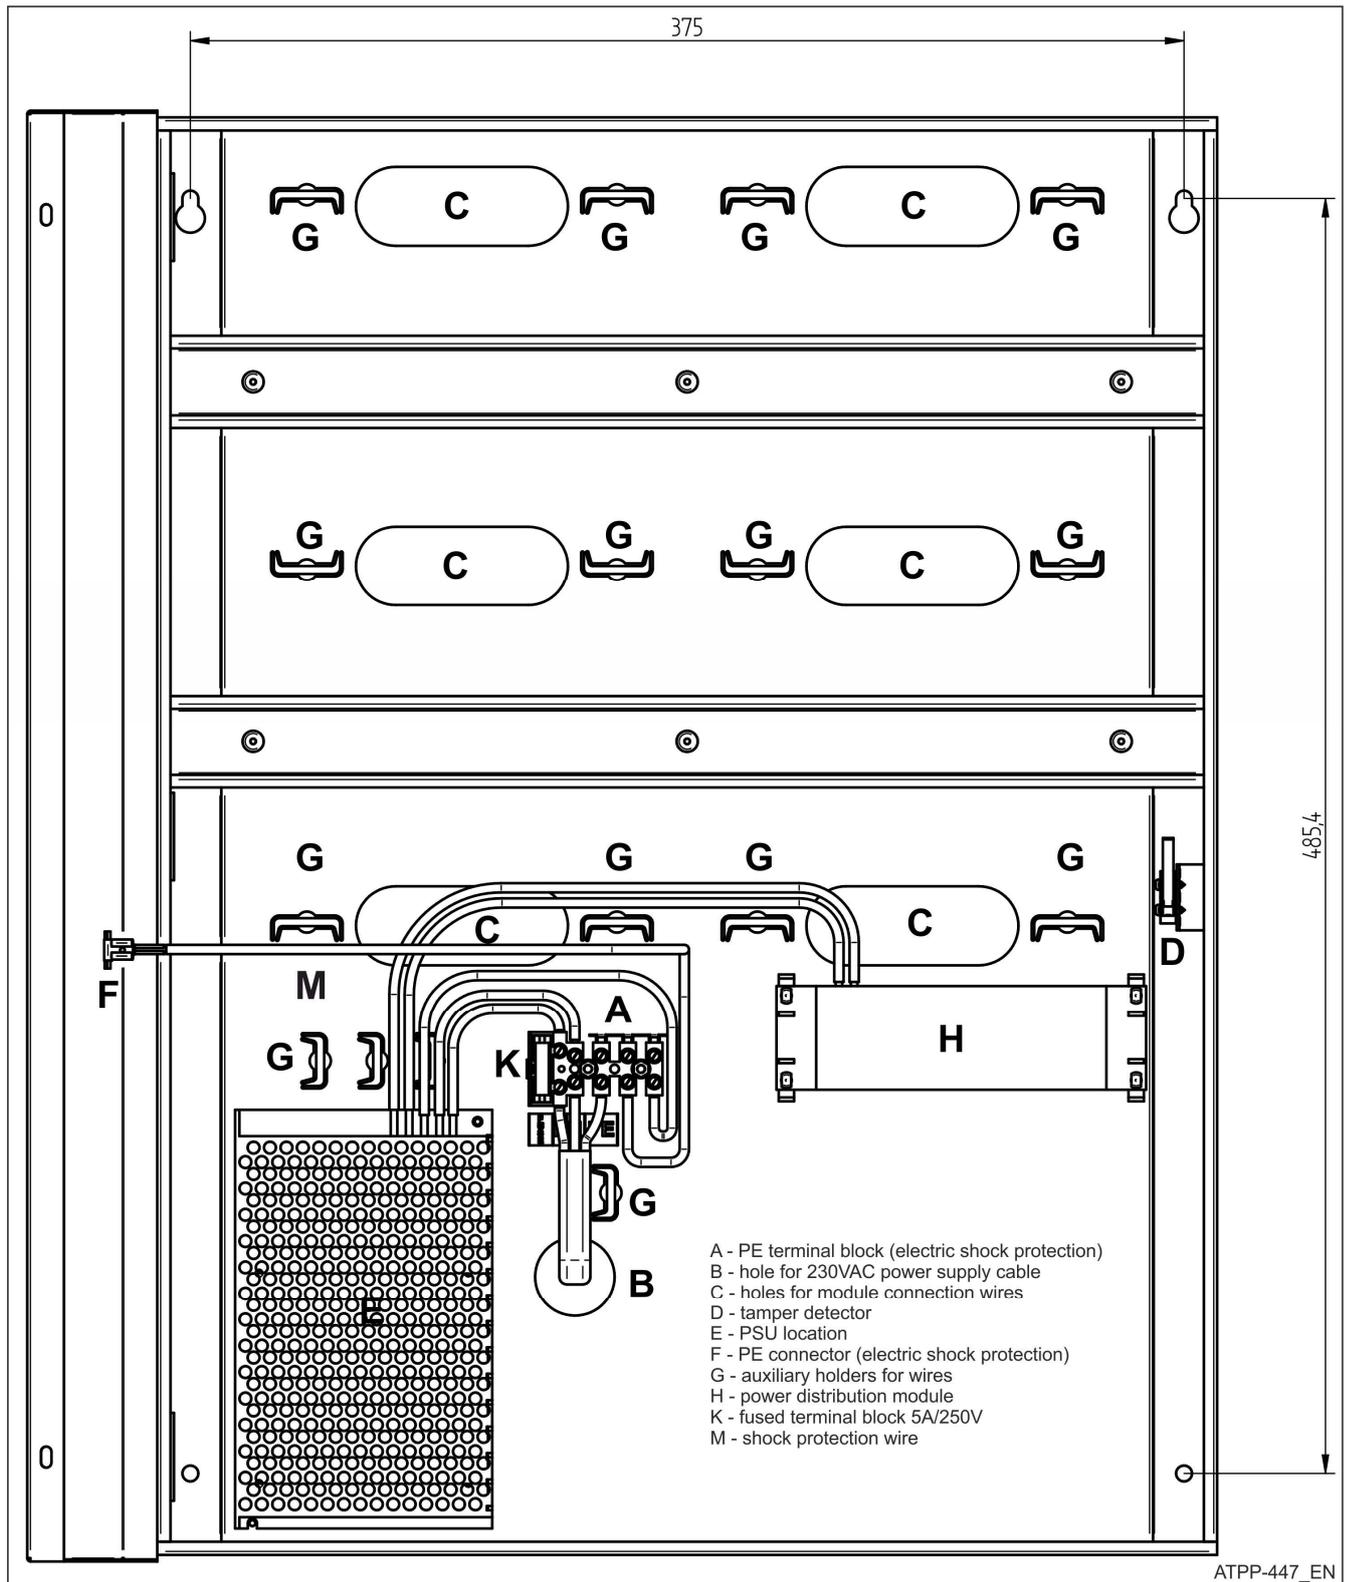

Fig. 2 Internal view of ME-43 enclosure
6. Protective wire M connected to the terminal block A, should be connected to the F connector of the anti-shock protection PE located on the enclosure door (Fig. 2).